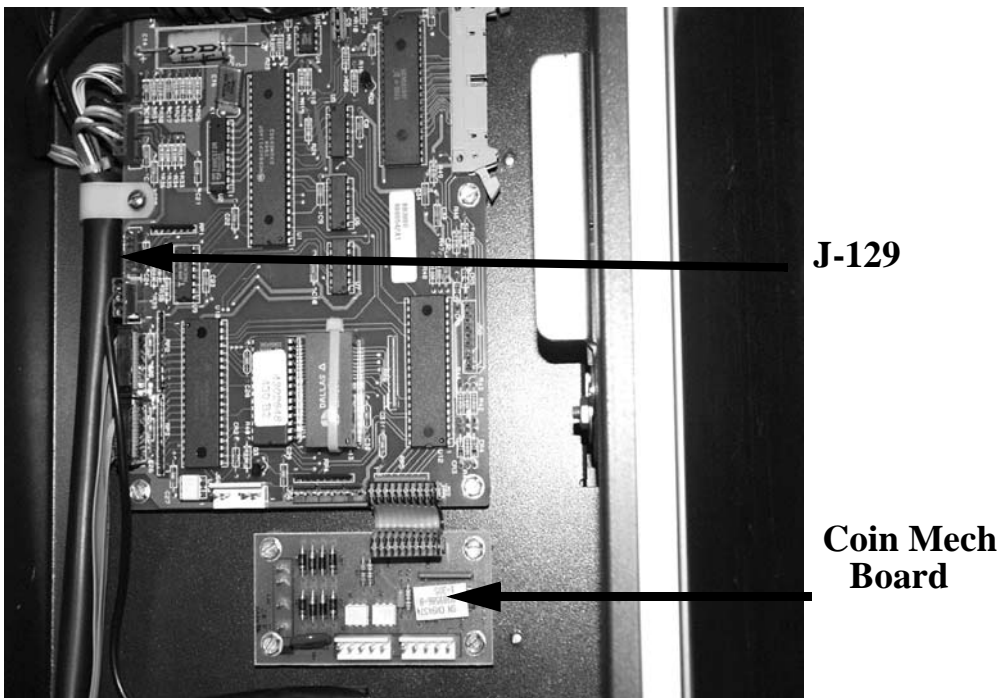

Figure 1
7. Plug bill validator harness part # 4301275 to coin mech board. Connect the plug with the single blue wire to J129 on the main control board. As shown in figure 1.